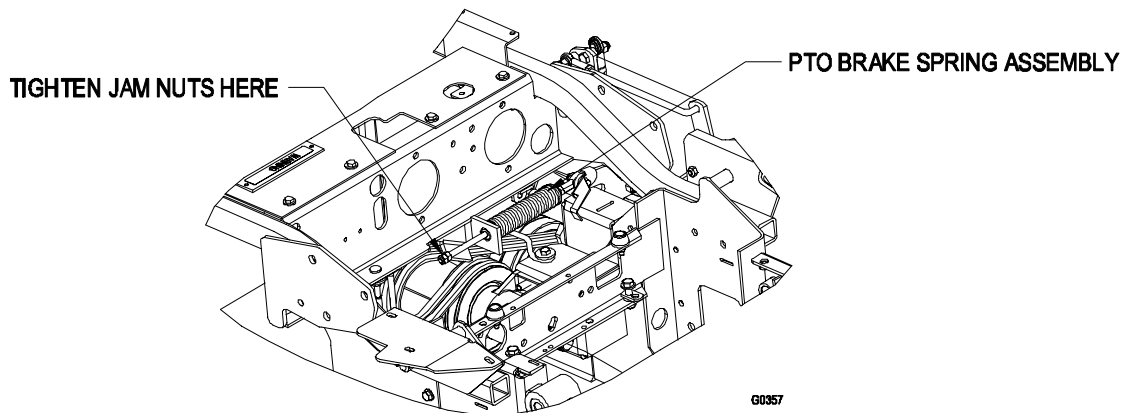

FIGURE 23
- b) Locate the brake spring and thread the two jam nuts out to the end of the brake spring rod. See Figure 23.